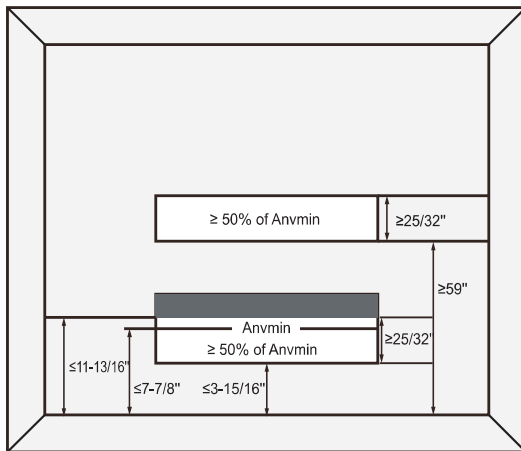

Figure 2.6 Opening conditions for connected rooms
- For determination of room area (A) when used to calculate the refrigerant charge limit, the following shall apply.
- The room area (A) shall be defined as the room area enclosed by the projection to the base of the walls, partitions and doors of the space in which the appliance is installed. Spaces connected by only drop ceilings, ductwork, or similar connections shall not be considered a single space.
- The area of the connected rooms, on the same floor, connected by permanent opening in the walls and/or doors between occupied spaces, including gaps between the wall and the floor, can be considered a single room when determining compliance to Amin, provided all of the following conditions are met as Figure 2.6.
- ① The opening shall not be less than Anvmin in Table 2.5.
- ② The area of any openings above 11-13/16 inches from the floor shall not be considered in determining compliance with Anvmin.
- ③ At least 50% of the opening area of Anvmin shall be below 7-7/8 inches from the floor.
- ④ The bottom of the opening is not more than 3-15/16 inches from the floor.
- ⑤ The opening is a permanent opening that cannot be closed.
- ⑥ For openings extending to the floor the height shall not be less than 25/32 inches above the surface of the floor covering.
- ① The opening shall not be less than 50% of Anvmin in Table 2. 3.
- ② The opening is a permanent opening that cannot be closed.